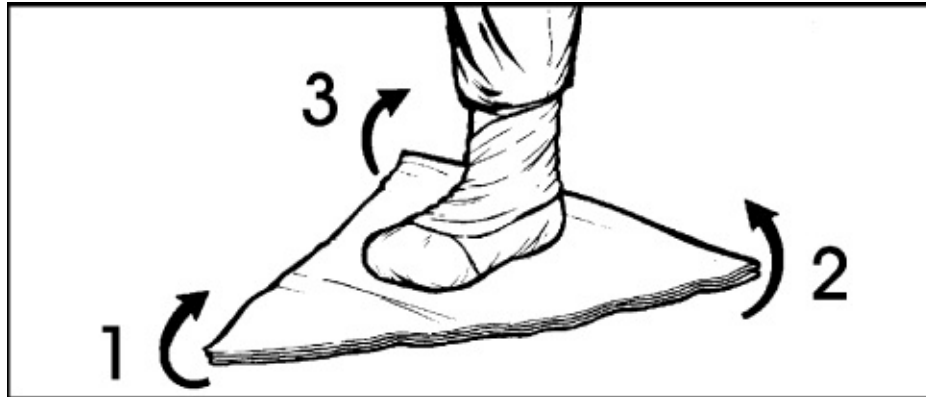

Figure 6-1 Improvised foot wear
- (1) **DO NOT** sit or lie directly on the ground.
- (2) Wash clothing whenever possible.
- (3) Repair when necessary by using—
- j. Improvised foot protection (**Figure 6-1**).
- (1) Cut **2** to **4** layers of cloth into a 30-inch square.
- (2) Fold into a triangle.
- (3) Center foot on triangle with toes toward corner.
- (4) Fold front over the toes.
- (5) Fold side corners, one at a time, over the instep.
- (6) Secure by rope, vines, tape, etc., or tuck into other layers of material.